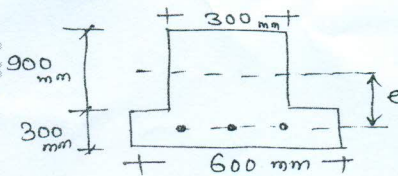

Fig.Q3
3. A prestressed concrete beam of inverted T-beam as shown in Fig.Q3 and is simply supported over a span of 16 m. The beam is post-tensioned with a 3-Freyssinet cables, each containing 12 wires of 7 mm dia placed as shown at the mid span. If the initial prestress is 1000 N/mm², calculate maximum uniformly distributed load if the maximum compressive stress in concrete is limited to 14 N/mm² and tensile stress is limited to 1 N/mm². Assume loss of prestress as 15% . (20 Marks)